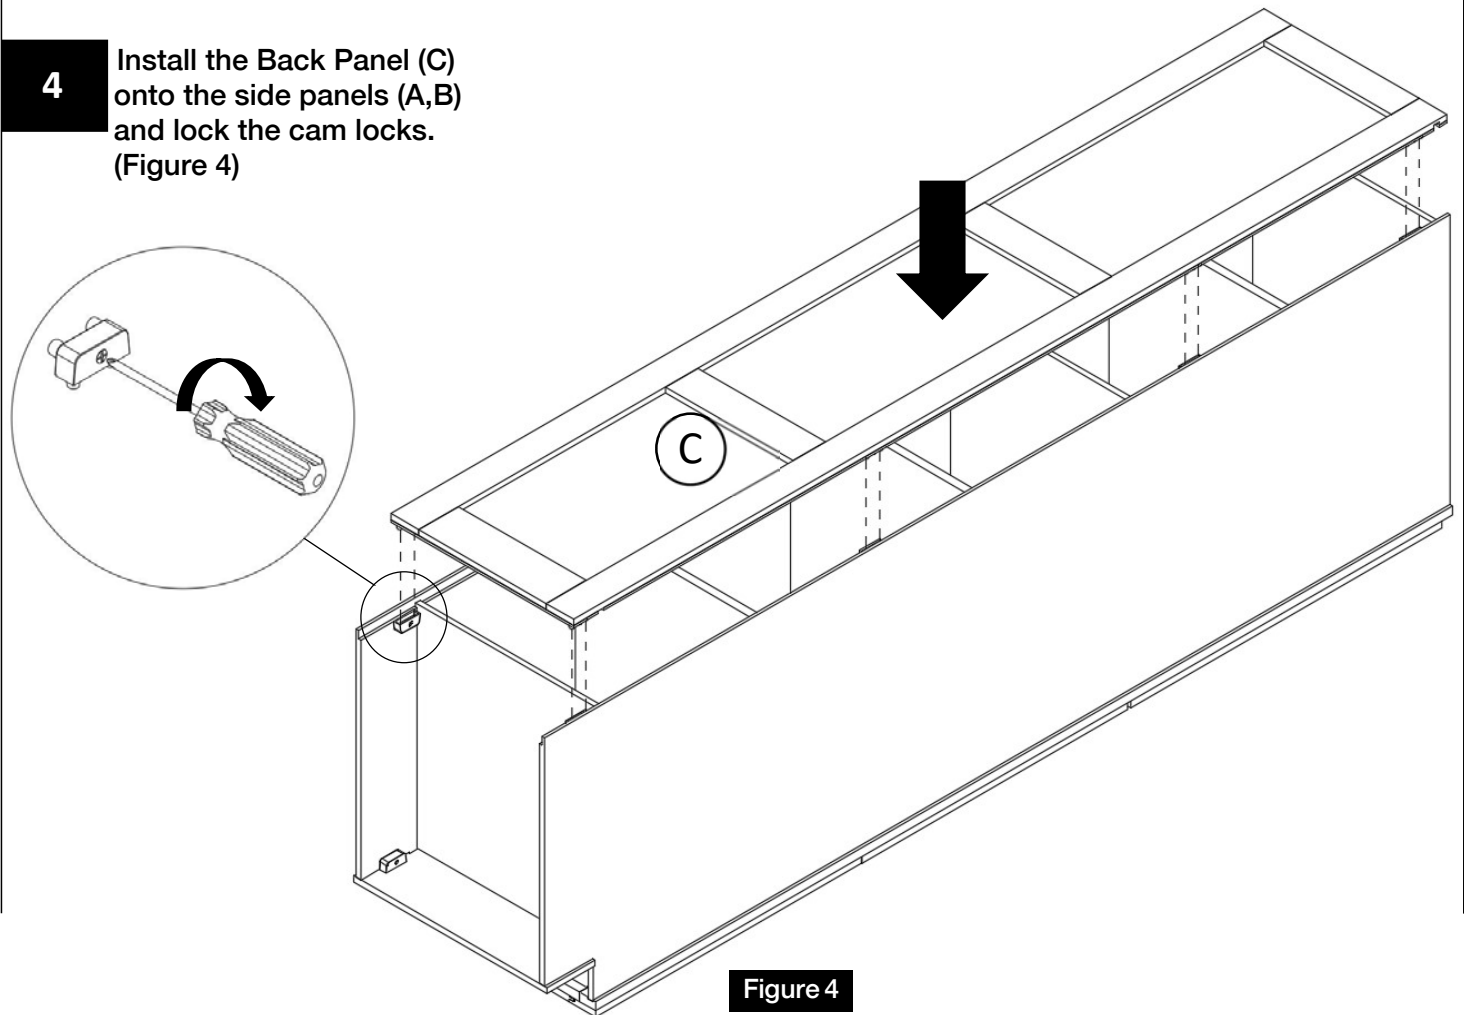

Figure 4
Install the Back Panel (C) onto the side panels (A,B) and lock the cam locks. (Figure 4)